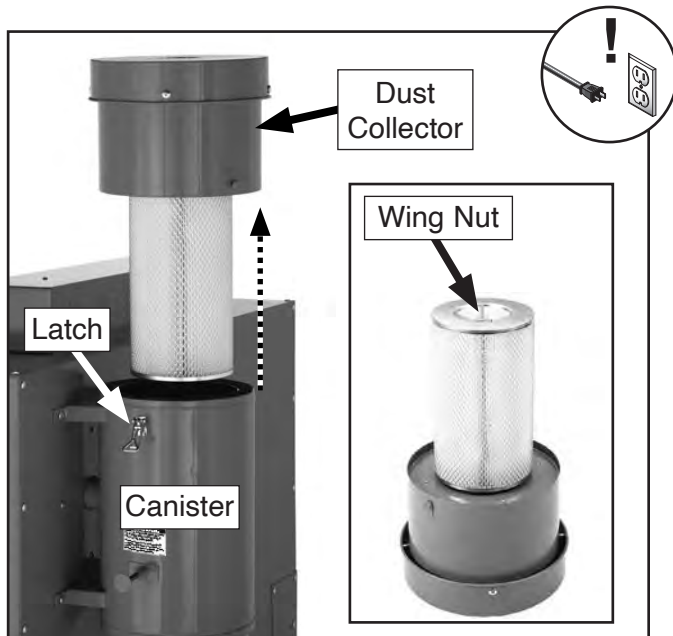

Figure 28. Dust collector and filter.
2. Unlatch (see **Figure 28**) dust collector and lift entire motor and filter unit out of canister and place it on workbench upside down.
3. Spin wing nut off of retaining stud, and remove filter (see **Figure 28**).
4. Place new five-micron filter over retaining stud, then re-install wing nut and dust collector (see **Figure 28**).